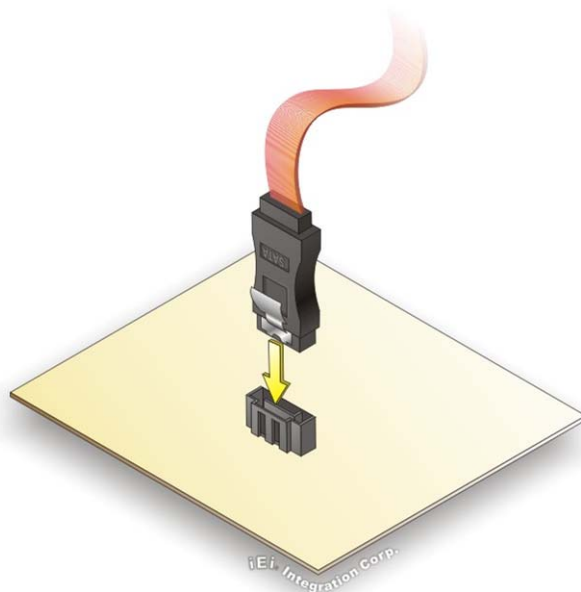

Figure 4-13: SATA Drive Cable Connection
Step 2: Insert the cable connector. Insert the cable connector into the on-board SATA drive connector. See **Figure 4-13**.